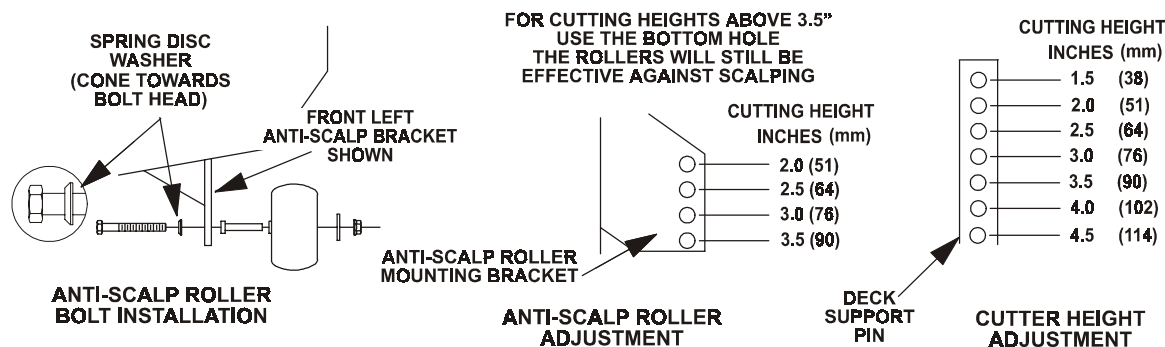

FIG 14
- a) Install hairpin clips in the holes shown on sketch below for the desired cutting height (See Figure 14).
- b) Adjust anti-scalp rollers for Normal Operating Conditions. Stop engine. Place rollers in one of the positions shown in Fig 14. Rollers will maintain 3/4 in. (19 mm) clearance to the ground to minimize gouging and roller wear or damage. **For Maximum Deck Flotation**, place rollers one hole position lower. Rollers should maintain 1/4 in. (6.4 mm) minimum clearance to ground. **Do Not** adjust rollers to support the deck. Be sure roller bolts and nuts are installed with the spring disc washer between head of bolt and mounting bracket. **Torque to 40-45 ft-lbs., or loss of roller may result.**
- c) When operating in extremely rough conditions it may be necessary to position the anti-scalp rollers one or two holes higher than described in "b" to prevent damage to the rollers and/or bolt failure(See Figure 14). **NOTE:** When anti-scalp rollers are placed in these positions, reduced deck flotation will result.